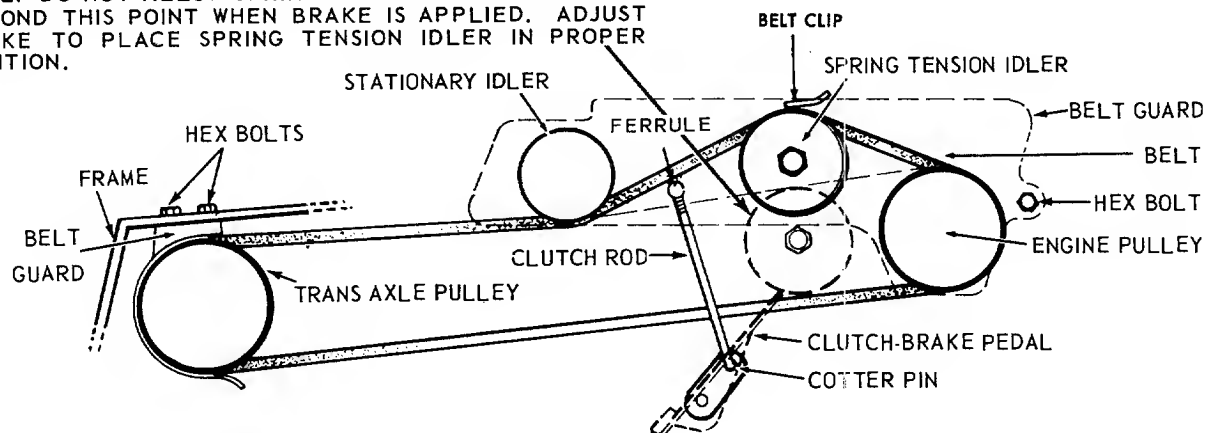

FIGURE 21. CLUTCH-BRAKE PEDAL ADJUSTMENT
To adjust the angle of the clutch-brake pedal, remove the cotter pin on the clutch rod and turn the clutch rod in or out of the ferrule to obtain the most comfortable angle of the pedal when the pedal is released. See figure 21.
If the spring tension idler goes below the height of the engine pulley when the clutch-brake pedal is depressed it will cause excessive belt wear and the brake should be adjusted. See figure 21.
Step 1. Remove the hex bolt holding the front of the belt guard and pivot it out of the way. See figure 21.